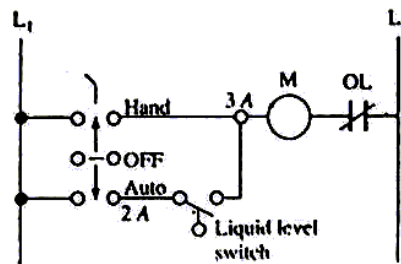

Fig. 32 Hand/Automatic control.
20. Hand/Automatic control (Fig.32)